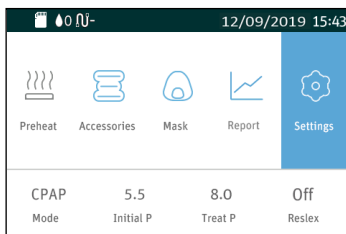

Fig. 15-1
(1) Turn on the device. The device screen displays the Main Interface shown in Fig. 15-1.
(1) Turn on the device. The device screen displays the Main Screen shown in Fig. 15-1. Turn **the Knob**  until the cursor is on the icon , and the screen displays the Initial Setup Interface shown in Fig. 15-3. Press **the Knob** , and the first option on the Initial Setup Interface turns blue, as shown in Fig. 15-4.